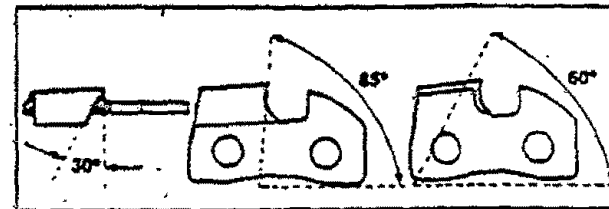

Figure 31
- f.) File chain to meet specifications shown in Figure 31.